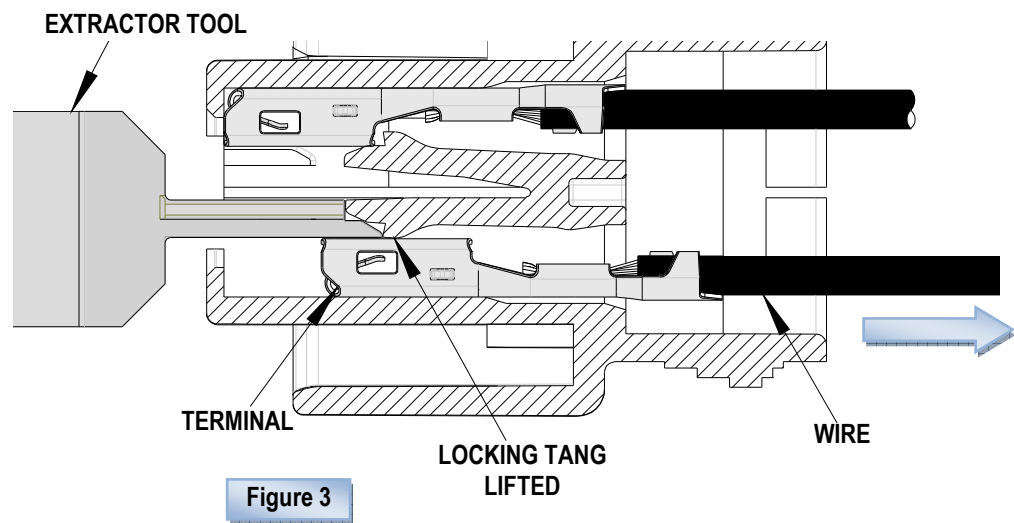

Figure 3
2. Depress the terminal locking tang and gently pull the terminal back through the connector slot in the arrow direction as shown in Figure 3.